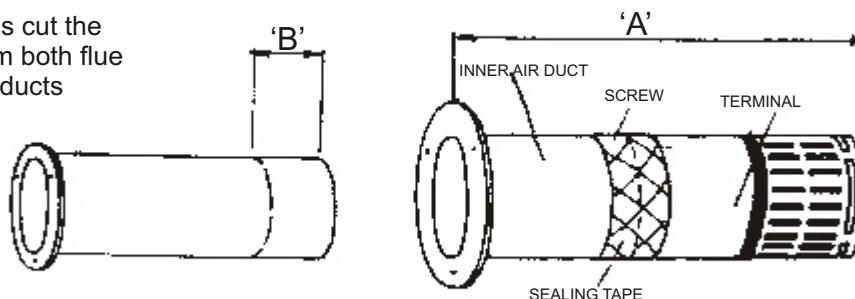

Fig 6
2. Fit the flue and air ducts to the back of the heater using the gaskets and screws provided. This operation is made easier by using the screws to tap the holes before assembly. The flanges of the ducts are marked 'TOP' to indicate the way in which the ducts are to be fitted. The air duct also has a hole at the opposite end to the flange. NOTE: The flue and air ducts do not need adjustment unless the short flue assembly is being fitted. In this case measure the wall thickness, then SUBTRACT the measurement from 195mm(7.7in) to give the length 'B' shown in Fig. 6. Cut this length from the plain ends of both flue and inner air ducts.
3. Adjust the flue to length. First measure the wall thickness and add 184mm to give the overall length of flue 'A'. Fit the terminal assembly to the ducts already fitted to the heater. The top of the assembly is marked 'TOP'. Set the overall length of the flue to the dimension 'A' (Fig. 6). Drill 2.7mm diameter for the fixing screws but do not fit them yet. Remove the flue terminal.